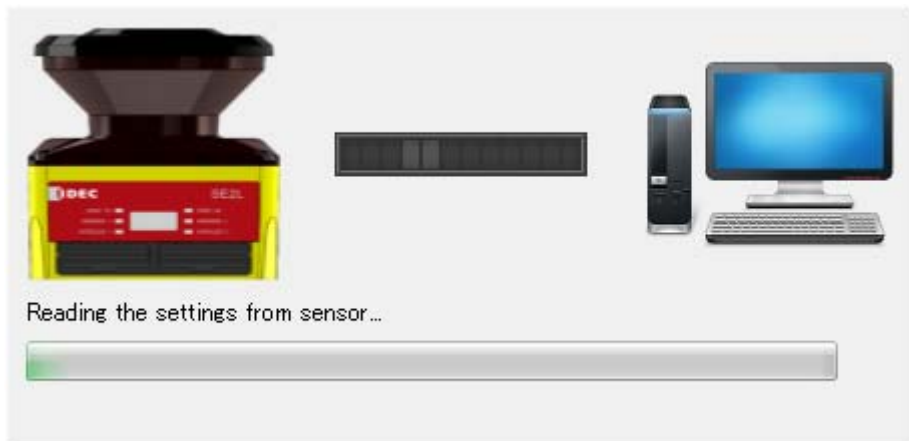

Figure7-52 Reading the configuration of SE2L
- b) Select Load settings on the sub panel window. Progress panel will appear (Figure 7-52) showing the state. If this button is clicked without connecting the SE2L a dialog box will appear to read settings from the SD card (refer to section 7.9.1).